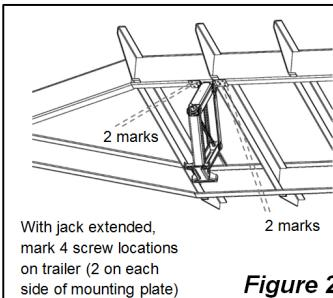

Figure 2
4. Using the pre-punched holes on the mounting plate as a template, mark 2 screw locations on each side of the jack, for a total of 4 screws per jack, as shown in **Figure 2**.